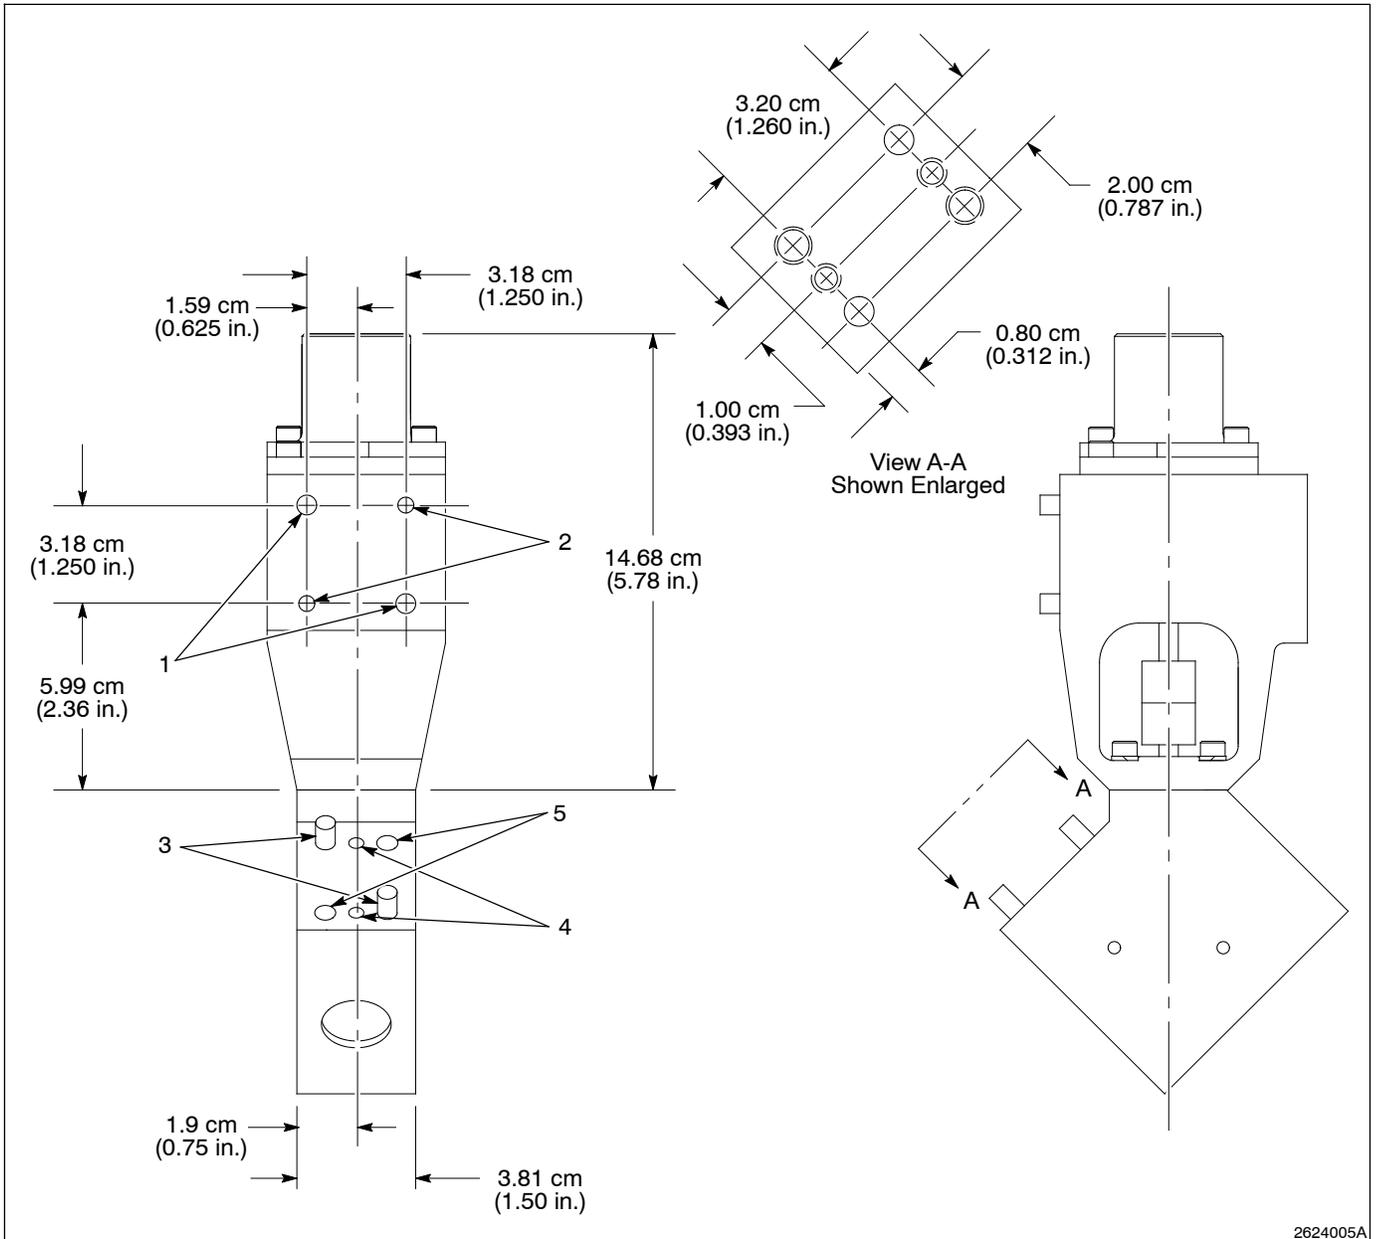

Fig. 5 Basic View for Mounting a HIVISC CE20 Gun
See Figure 5. Mounting the gun to a robot arm requires the use of a customer-supplied end-of-arm tooling that has been specifically designed for the application. The design of the end-of-arm tooling must include provisions for accepting two  $1/4$ -20 threaded mounting bolts (2) and two  $1/4$ -in. dowel pins (1).
6. See Figure 5. Remove the two mounting bolts (2) and two dowel pins (1) securing the gun to the robot arm or other mounting. Remove the gun from its mounting and move it to a clean workbench.